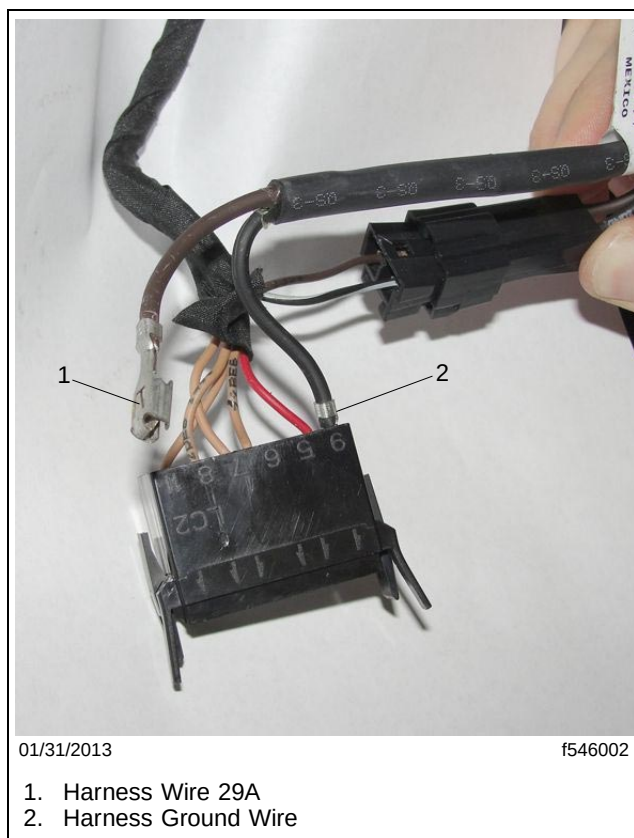

Fig. 8, Attaching the Harness to the Switch
11. Connect the harness into open cavities 9 and 11 of the removed switch. Connect the black wire to cavity 9 and the brown wire to cavity 11. See **Fig. 8**.